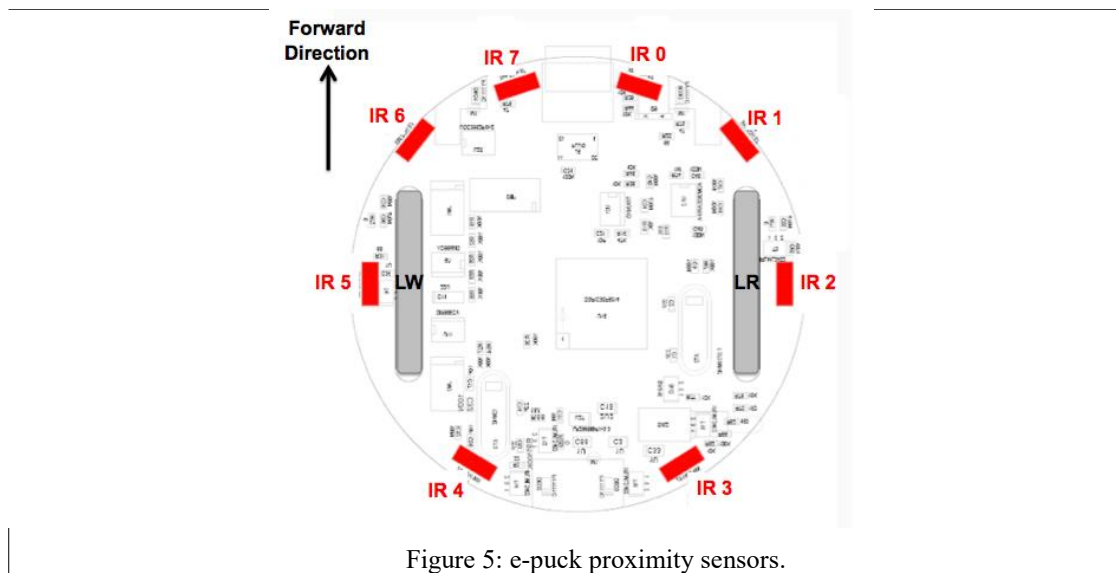

Figure 5: e-puck proximity sensors.
13. **(Q):** What is the influence of the parameter, say,  $\alpha_{\text{left},0}$  on the speed of the left wheel? *Hint: explain what happens if  $\alpha_{\text{left},0}$  is large or small when an obstacle is detected by the proximity sensor  $ps_0$  (recall Figure 5).*
14. **(I):** Modify the parameters of the controller `e-puck_braitenberg.c` so that you achieve these behaviors (see note in code and refer to Fig. 5 for sensor placement):